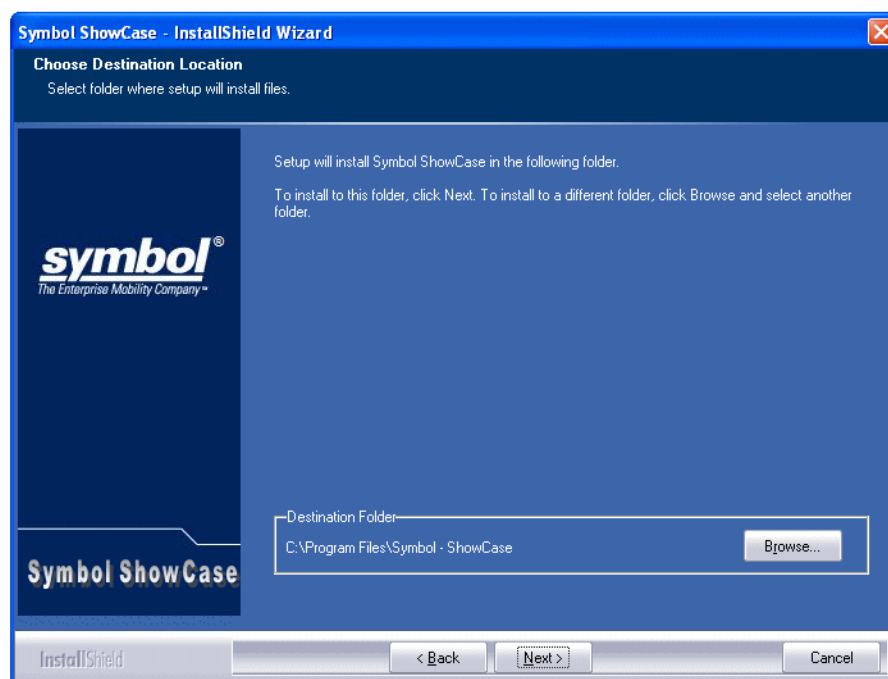

Figure 2-5. Destination Window
4. Click **Yes** to accept the licence agreement and continue, the *Destination* window appears (see Figure 2-5).